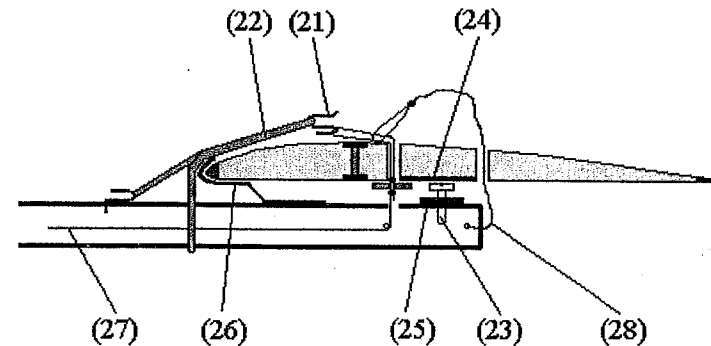

Figure 11. Fixing of Horizontal Stabilizer onto the Fuselage during the Flight
By making use of elements belonging to the theory of joints (figure 11), the "S" shape hook (21) will get interlocked to the dethermalizing rubber (22) by means of a "Prusik" knot or "capstan" used in mountaineering.